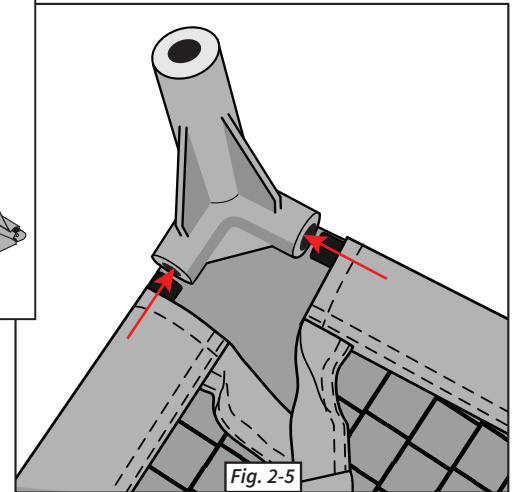

Fig. 2-5
5. Insert three long rods into the back and side sleeves of the base, then add the two 3-way joints to each corner by inserting the rods in the corner holes. (Fig. 2-5)